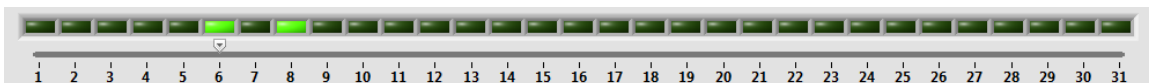

Figure 10 Address and Multidrop Logging enable
- 3.1. Select STORE/LOAD to LOAD (10). Refer to Figure 10.